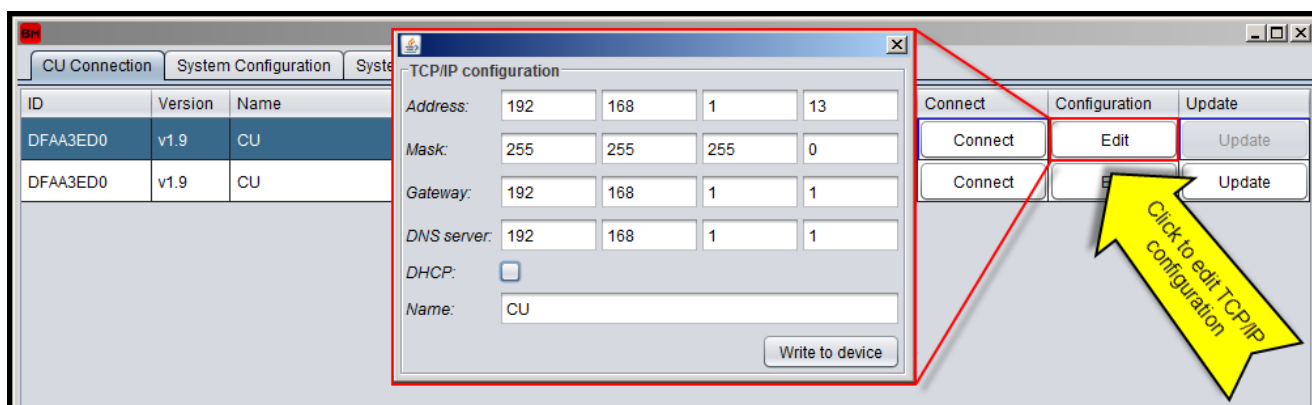

Figure 26: CU connection TCP/IP configuration
- The CU is shipped by default with a dynamic IP address (DHCP) which should fit most of the uses. In case the CU must be run with a different setting, the user can click on the **"Edit"** button to open the TCP/IP configuration dialog as shown in Figure 26. Insert the desired values in the dialog and click on **"Write to device"** button to store the new setting in the CU.